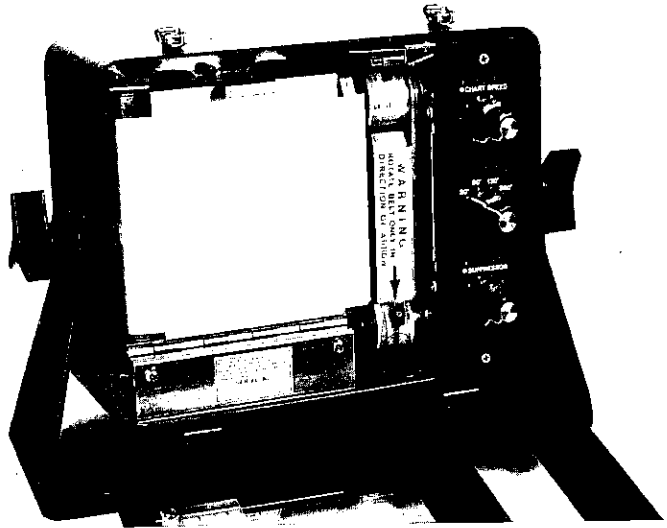

Fig. 32
10. Push the platen assembly back to its operating position. Be sure it engages the catch inside the top of the case. (See Figure 32.)